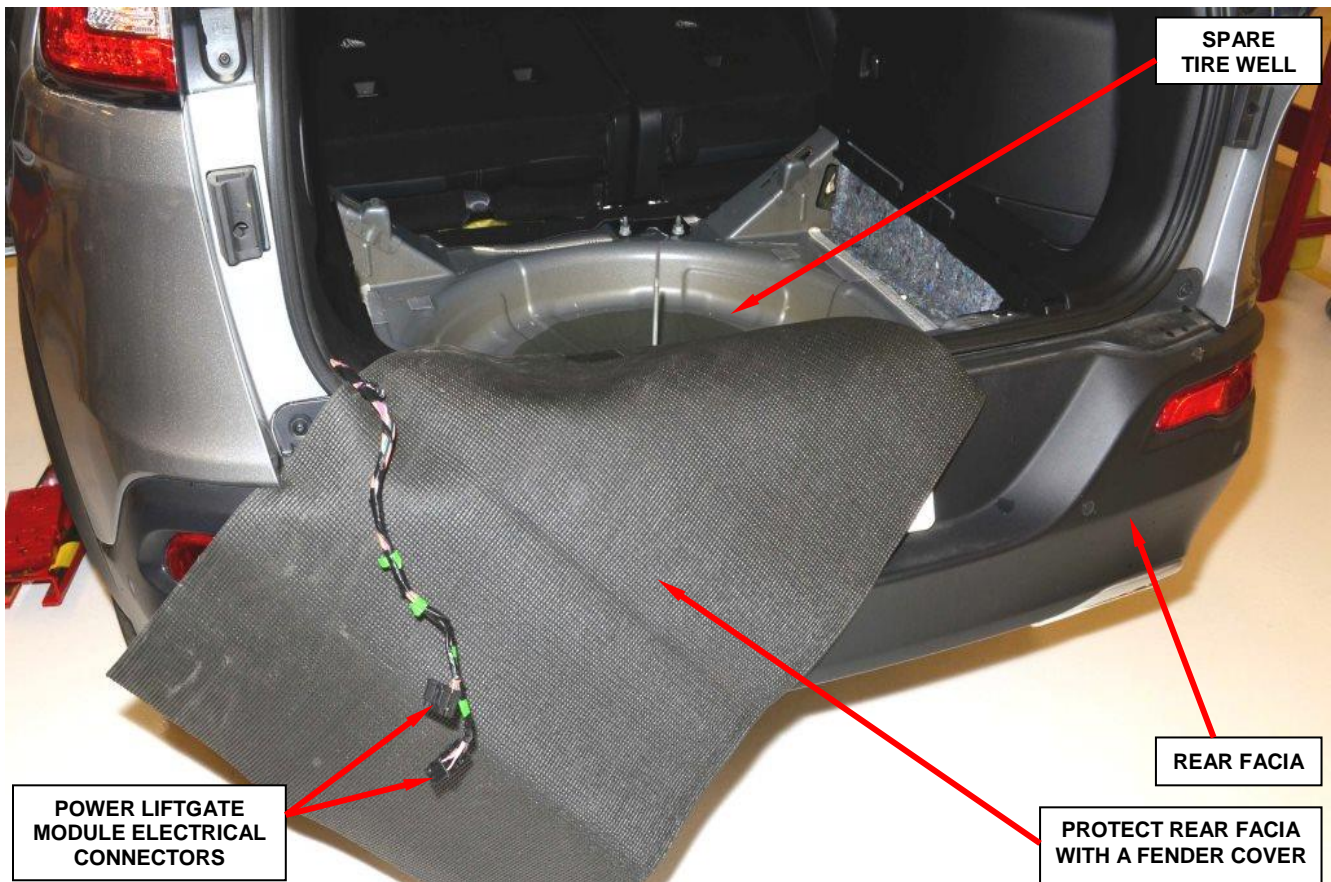

Figure 5 – Wire Harness Access
3. Disengage the wire harness retaining clips and pull the harness out as shown in Figure 5.